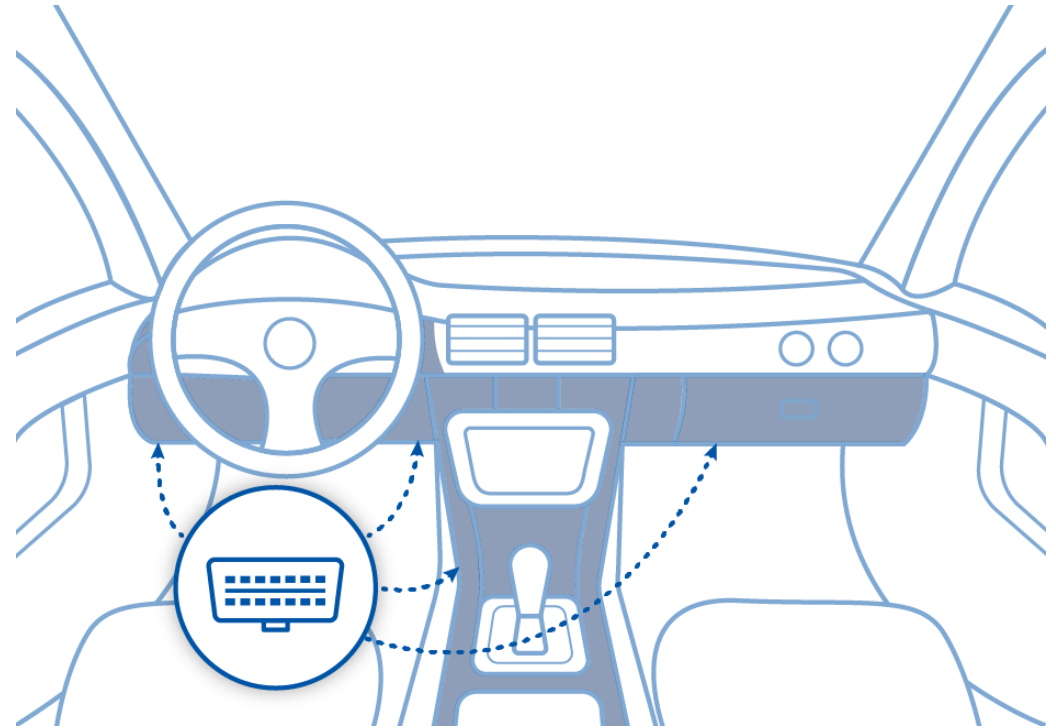

Figure 7. Most common OBDII connector locations.
- Find OBDII connector in your vehicle (**Figure 7. Most common OBDII connector locations.**)